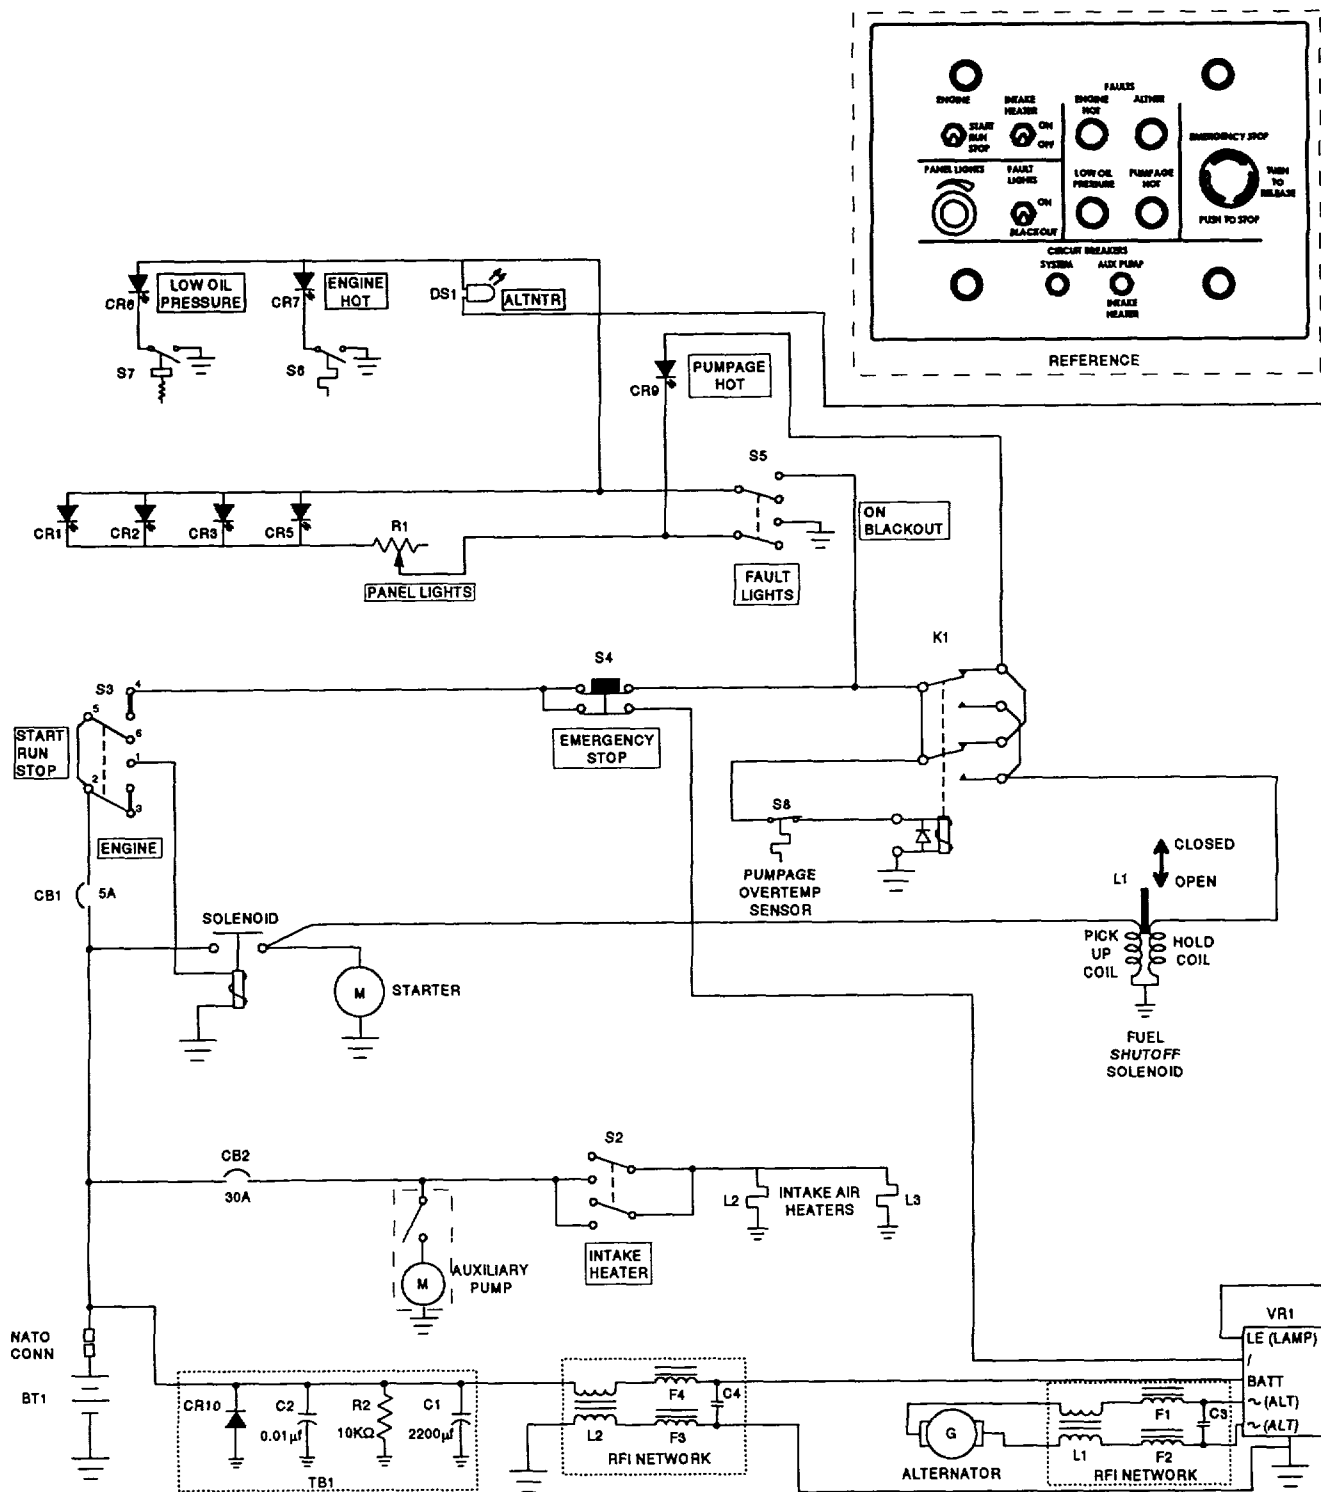

Figure 5-2 . Pumping Assembly Electrical Schematic
5.3 PUMPING ASSEMBLY PRINCIPLES OF OPERATION. (Refer to figure 5-2.)